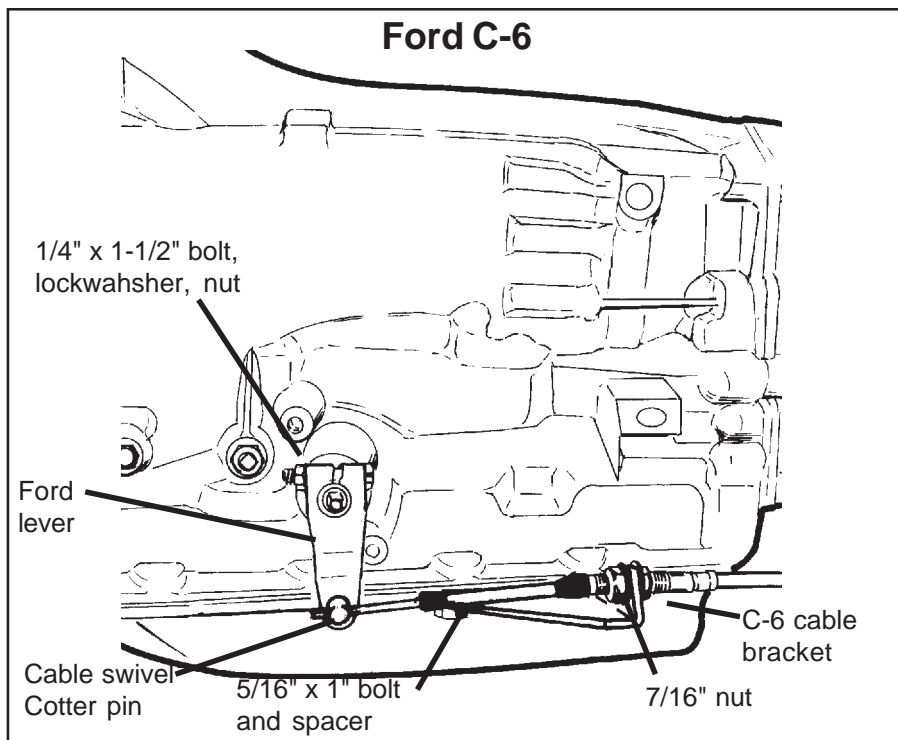

Figure 7
**C-6:** Remove the two transmission oil pan bolts from the left rear corner of the oil pan. Install the cable bracket in position with the two spacers between the pan and the bracket (See Figure 7). (If your transmission is equipped with a cast aluminum oil pan, these spacers can be omitted.) Install the two 5/16"-18 x 1.00" bolts supplied and tighten to 12-13 lb.ft. Do not overtighten as this can damage the pan gasket.